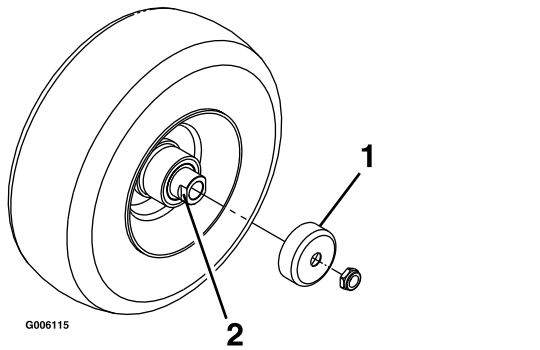

Figure 42
4. Remove the seal guards from the wheel hub (Figure 42).